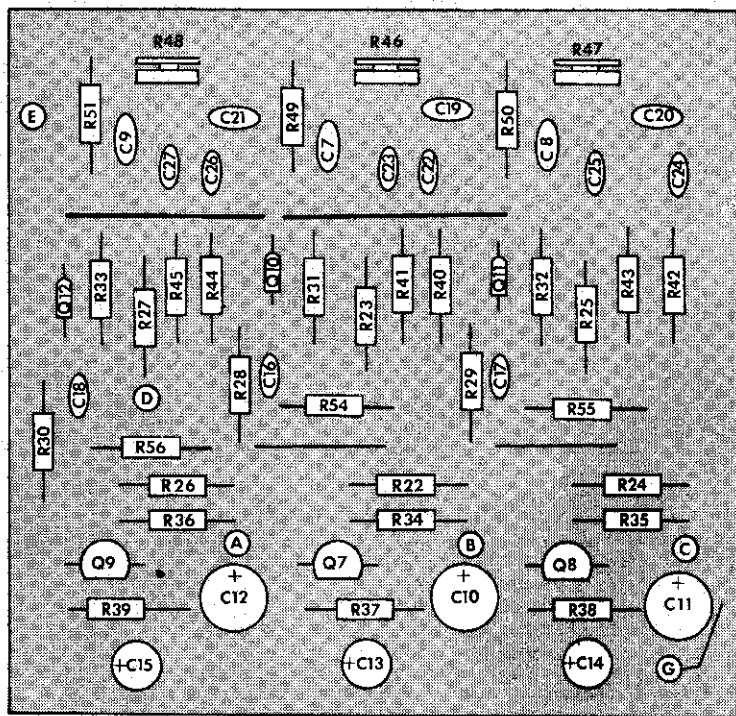

FIGURE 2
- ( ) Using the long leads trimmed from capacitors C16, C17 and C18, form and install the four jumpers illustrated in figure 2 and indicated on the circuit board with solid lines.